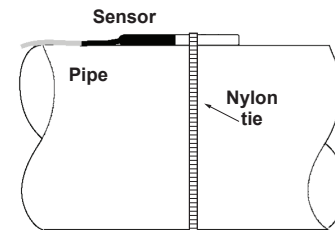

Figure 2 - Installing the TE-704-A Sensor
3. Position the sensor flat against the pipe and fasten with a hose clamp or nylon ties (*not provided*). Refer to **Figure 2**.